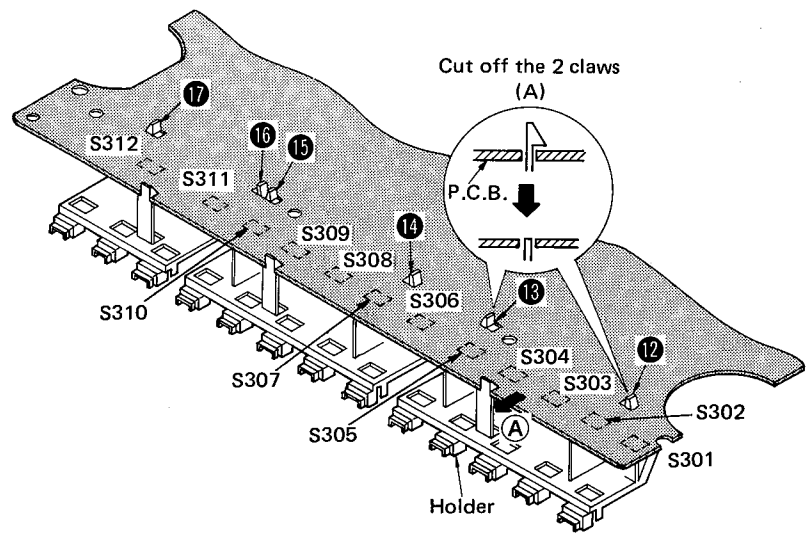

Fig. 4
2. When removing S301 ~ S305, cut off the 2 claws (Fig. 4 : ⑫, ⑬) of LED holder. (Fig. 4-A)
4. Release the claw (A) of LED holder and remove the LED holder from the printed circuit board. (Fig. 4)
6. To remove S306 ~ S310, cut off claws ⑭ and ⑮.
7. To remove S311 and S312, cut off claws ⑯ and ⑰.